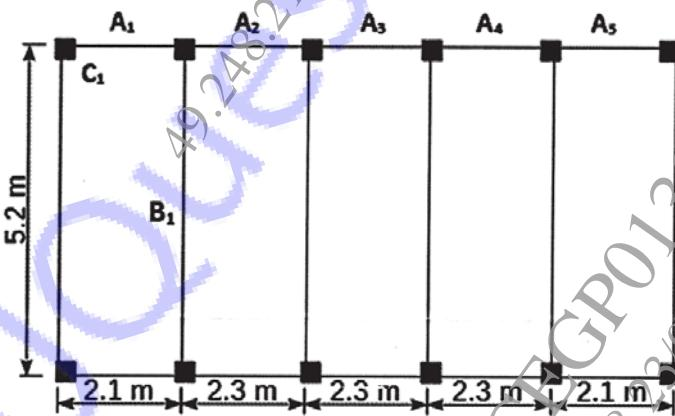

Fig. 1
- Q2)** a) Figure 1 shows the floor plan of a building. The beams are of size  $230 \text{ mm} \times 450 \text{ mm}$ . Beam  $B_1$  is reinforced with 4-16# bars in tension and 2-10# in compression. The load on the slab is  $6 \text{ kN/m}^2$ . Design the beam for shear. Adopt M-25 grade of concrete and Fe-500 grade of steel. Sketch the details of reinforcement. [14]
- Q3)** a) For the floor plan shown in Fig. 1, design the continuous beam A1-A2-A3-A4-A5. The total load on the slab is 5.5 kN/m2. Design the beam using M-20 grade concrete and Fe-500 grade of steel. Sketch the details of reinforcement. [15]
b) For the floor plan shown in Fig. 1, design column C1. Show how the column is oriented. The column is subjected to working load of 700 kN, working moment of 90 kN-m about major axis bisecting the depth of column. The unsupported length of column is 4.0m. The column is fixed at both the ends. Show detailed design calculations and reinforcement details. Use M-30 grade concrete and Fe-500 grade of steel. [14]